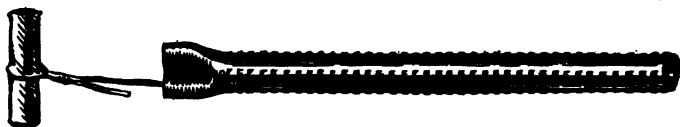

FIGURE 84.—Fuze lighter.
e. Fuze lighter.—The fuze lighter (fig. 84) is used to light a time fuze. The open end is placed over the end of the time fuze where it is held in place by means of teeth inside the fuze lighter. These teeth permit the fuze to enter, but are inclined so as to bind the fuze and prevent its removal. It is unnecessary to crimp the lighter. Pulling the handle causes a flame inside the lighter which lights the fuze even in wet or windy weather, if the lighter and the powder train in the fuze *have been kept dry*. The fuze lighter should be set off by means of a steady pull (*not a jerk*). (Fig. 100 shows how to improvise a fuze lighter.)